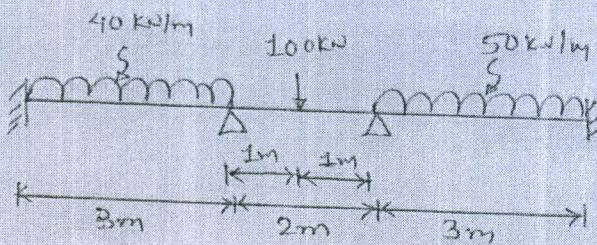

Figure 9
- (A) Briefly explain various losses in prestress. [5]
- (B) Determine the support moments for the continuous girder shown in fig.9 by Slope deflection method if the support B sinks by 2.50 mm. For all members $I = 3.50 \times 10^7 \text{ mm}^4$, $E = 200 \text{ kN/mm}^2$. [5]